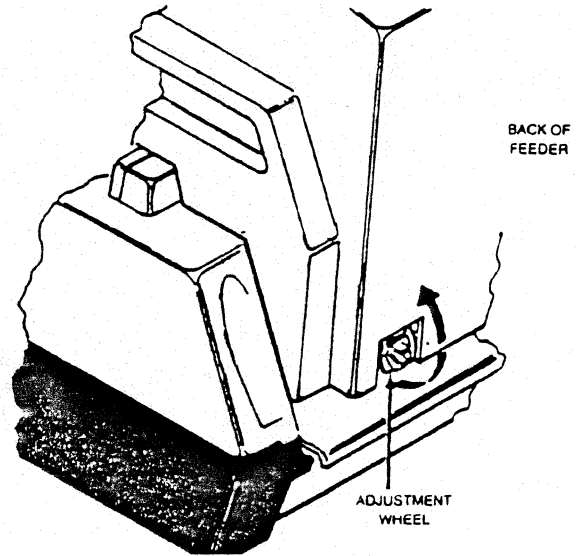

Figure E-9 Horizontal Adjustment; Adjustment Wheel
1. Turn the adjustment wheel UP (see Figure E-9) to move the feeder closer